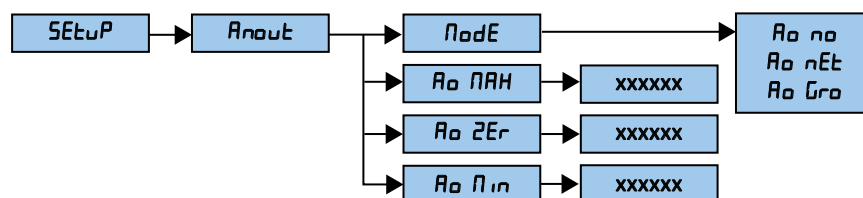

Figure 4-7. Analog Output Menu
1. Enter setup mode and go to the  $R_n \text{ OUT}$  menu (see Figure 4-7 on page 35).